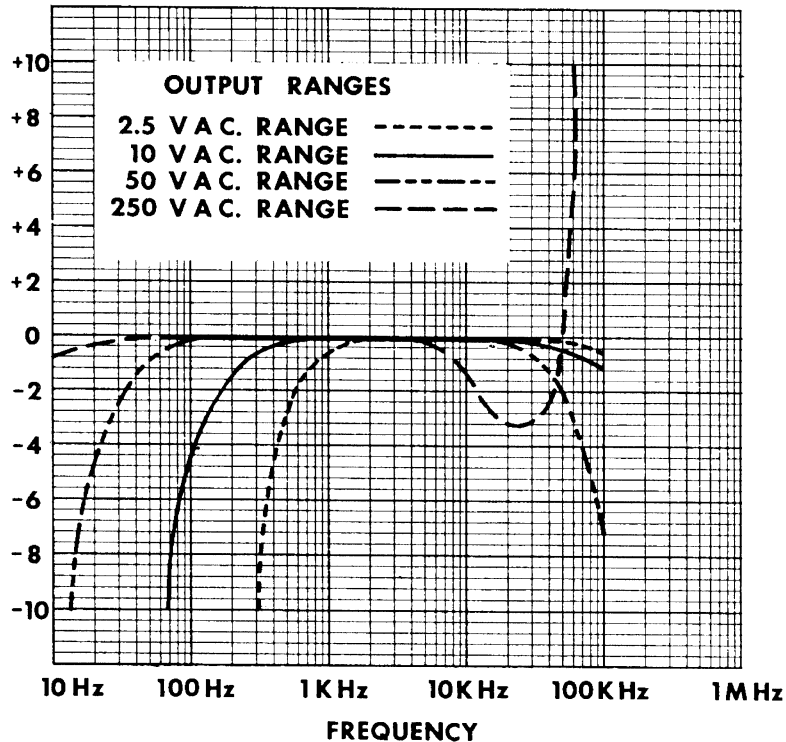

FIGURE 4-4. FREQUENCY RESPONSE OUTPUT RANGES
**4.12.1** It is often desired to measure the AC component of an Output Voltage where both AC and DC voltage levels exist. This occurs primarily in amplifier circuits. The 260 has a 0.1 mfd, 400 volt capacitor in series with the OUTPUT jack. The capacitor blocks the DC component of the current in the test circuit, but allows the AC or desired component to pass on to the indicating instrument circuit. The blocking capacitor may alter the AC response at low frequencies but is usually ignored at audio frequencies (Figure 4-4).